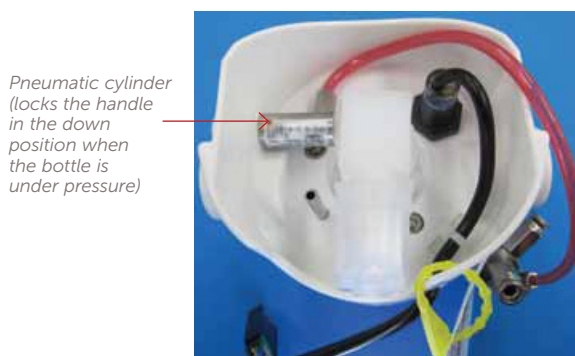

Figure 42. Location of pneumatic cylinder inside ErgoNOW connector.
3. The pneumatic locking cylinder (Figure 42) is located directly above one of the screws and must be removed from the connector body: